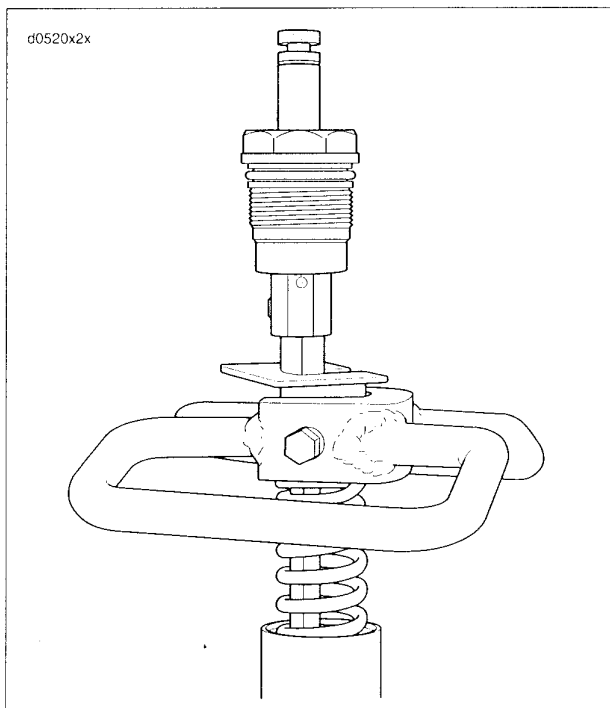

Figure 2-99. Spring Plate
18. See Figure 2-99. Using FORK SPRING COMPRESSION TOOL (Part No. HD-41549-A) push spring collar down and place SPRING PLATE (Part No. HD-41551) between spacer and spring collar.